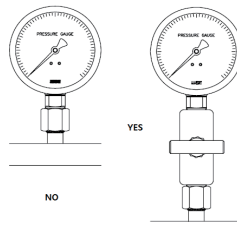

Figure 8
- 9) When installing a gauge for the first time, it is recommended to use the valve so it can be removed or controlled easily. (Figure 8)